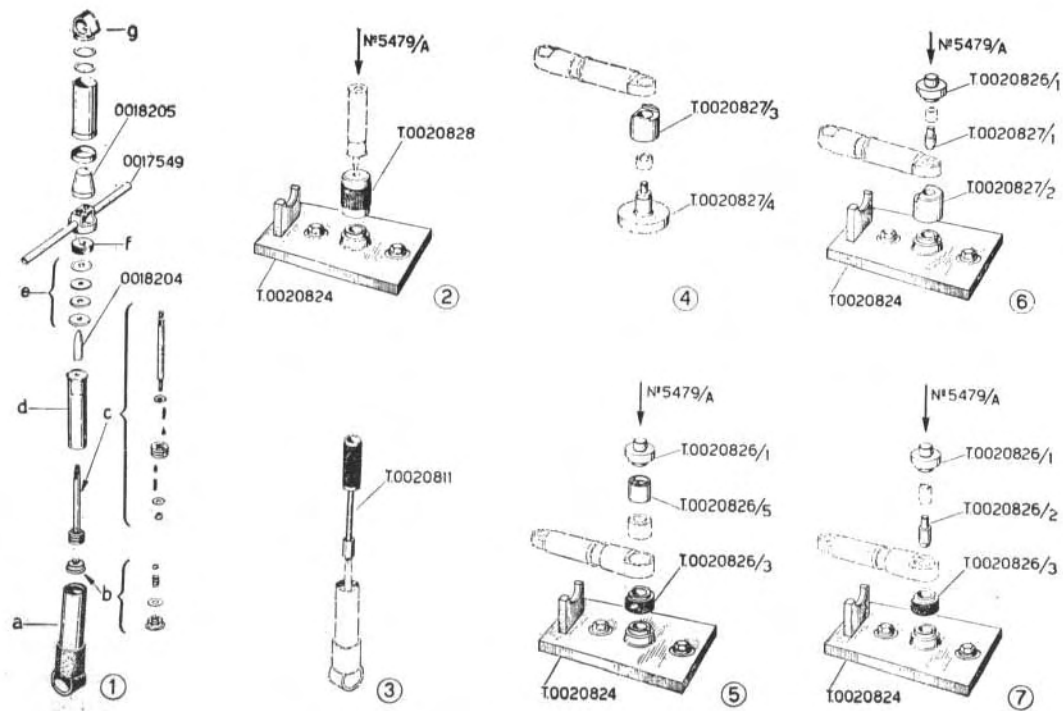

Fig. 119 - Dismantling and re-assembling the front damper.
1. Clamp the damper in a vice (lined with aluminium), tightening on the flat facing of the bottom part (a); see Fig. 119, No. 1.
3. Push the piston-stem unit into the cylinder, forcing out all excess oil. With hand press 5479/A and tools T.0020824 and T.0020828 assemble the discharge valve in the cylinder. Pierce the tube on two opposite points, two of the four holes, in the base of the cylinder so that the valve will not move (Fig. 119, No. 2).
5. Hold the cylinder (for inst.: press on the stem guide bush with a screwdriver), and use tool T.0020811 (Fig. 119, No. 3) to reciprocate the damper stem up and down until all air has been expelled. Let all excess oil out until the level reaches the upper
6. With pilot sleeve 0018204 assemble the packings. Assemble the threaded ring with wrench 0017549; with pilot sleeve 0018205 fit felt ring and outer tube. Screw down and tighten the support (g) holding the stem with a 6 mm open ended spanner (see Fig. 119, No. 1).
7. If the rubber bushes are to be changed, the instructions shown in Fig. 119, Nos. 4-7 should be followed.